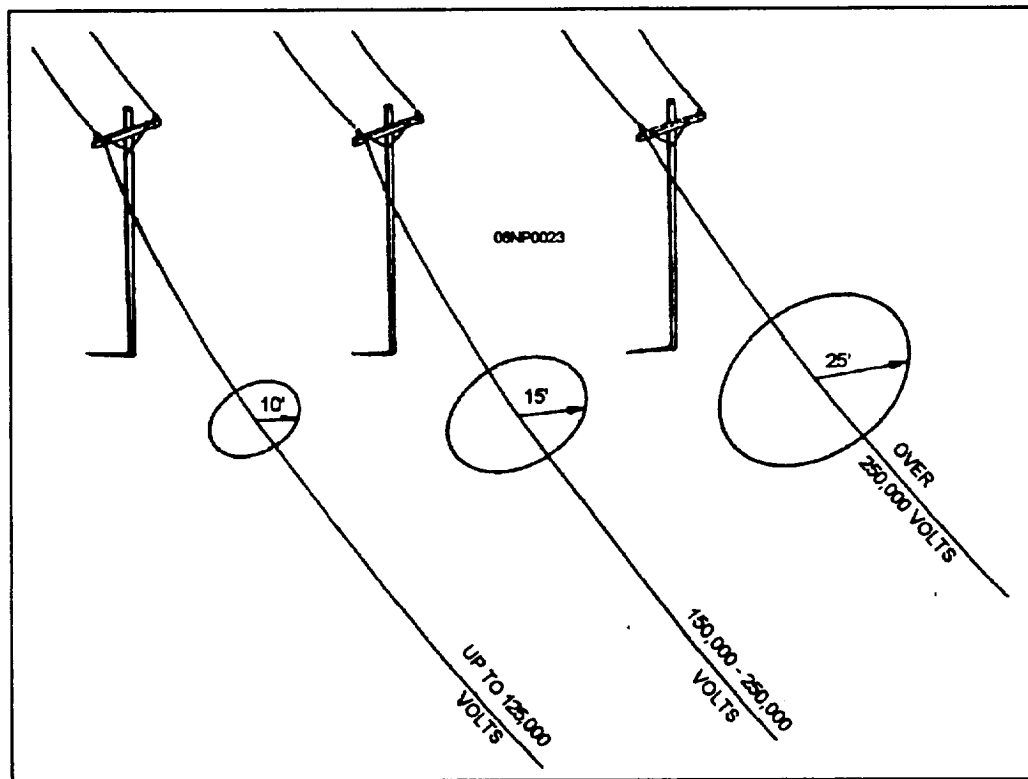

Figure 1-17.—Minimum safe distance for working around energized conductors.
- **The primary killer of riggers and those persons handling loads is electrocution caused by the contact of the boom, load line, or load of a crane with electric power lines.** When working with or around cranes that are within a boom's length of any power line, you must ensure that the power to that section of line is secured. If for some reason this cannot be accomplished, a competent signalman must be stationed at all times within view of the operator to warn him when any part of the machine or its load is approaching the minimum safe distance from the power line (fig. 1-17). You must also exercise caution when working near overhead lines that have long spans, as they tend to swing laterally because of the wind, and accidental contact could occur.